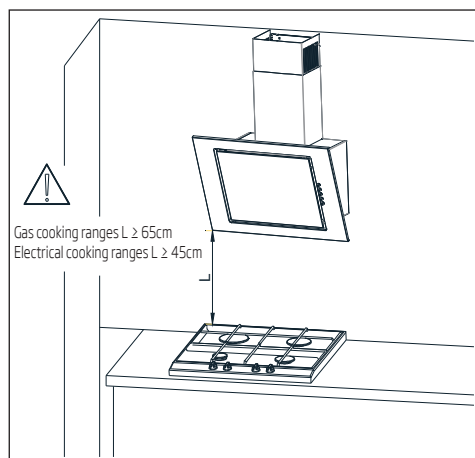
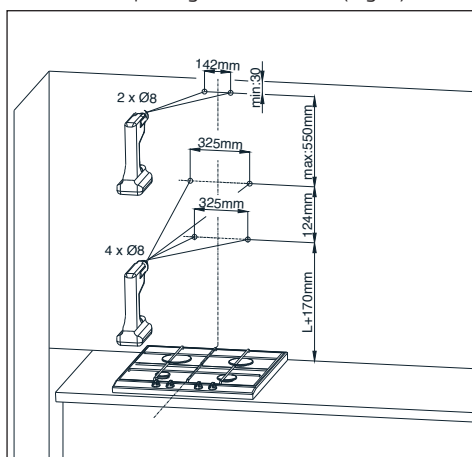
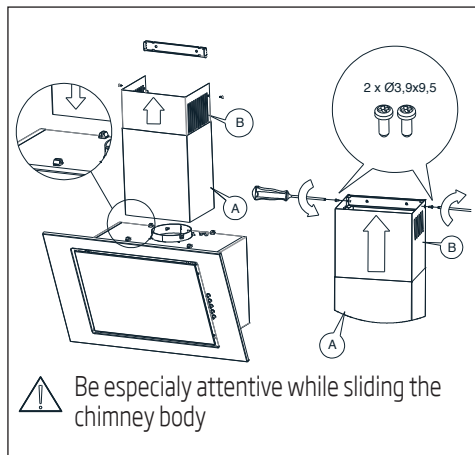

Fig.3 Recommended distances from the cooking range
Fig.4 Assembly dimensions
Fig.9 Chimney body assembly
The minimum distance of hood hanging between the surface of kitchenware placement over the cooking range (gas, electric range), and lowest part of the hood (Fig.3) shall amount at least 45 cm for electric cooking ranges and at least 65 cm for gas cooking ranges. Should the cooking range operation manual provide the higher distance for hood installation, such higher distance requirement shall be maintained. The installation of the hood and chimney body is shown at the figures (Fig.4 - Fig.9). The hood is equipped with the fixing pins matching to the most part of walls and ceilings. In course of the assembly, observe the common rules for air exhaust from the premises.
1. Define the axis of cooking range, and project it onto the wall, where the hood will be mounted. Sign all characteristic points of hood fastening. Make the openings with the drill. (Fig. 4)
Place the chimney body on the hood body. Then, draw delicately the hood part signed with B upwards, until it becomes possible to screw it to the fastening element previously attached to the wall (Fig. 9).